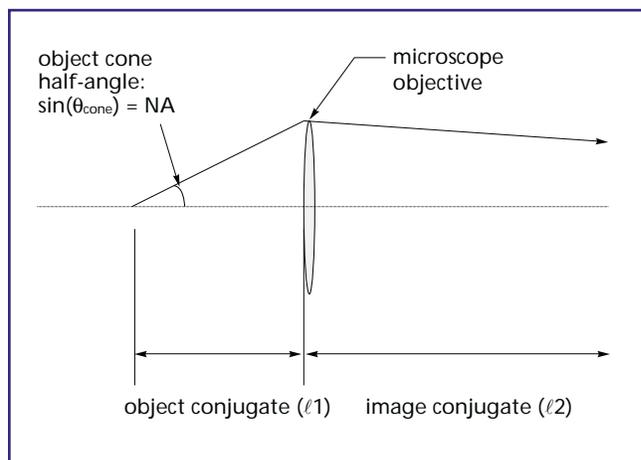

Figure 3. Numerical aperture (NA)
For lenses designed to work at magnifications greater than 1 (for example, microscope objectives), the cone angle on the object side is used as the performance measure. By convention, this angle is given as a numerical aperture (NA). The NA (figure 3) is given by: